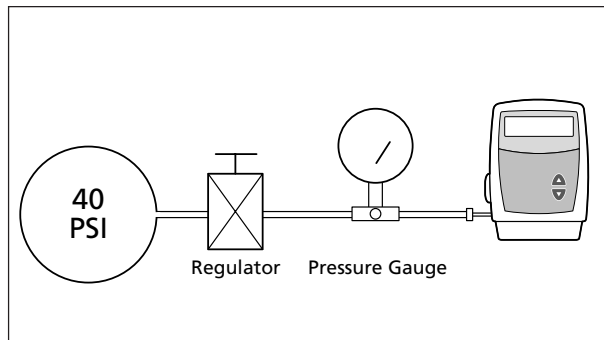

Figure 12 . Occlusion test set-up.
3. Assemble the apparatus as shown in Figure 12.